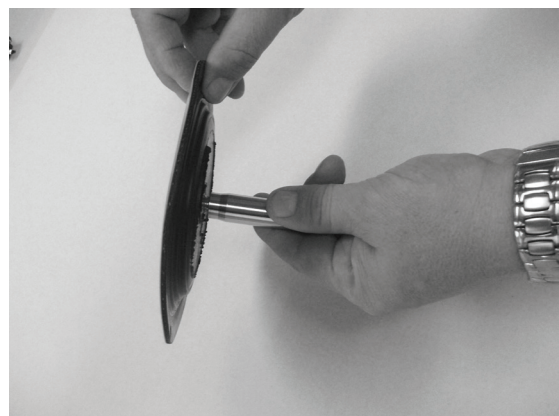

Figure 3
Unscrew the diaphragm (3) of the shaft (4). (See figure 3)